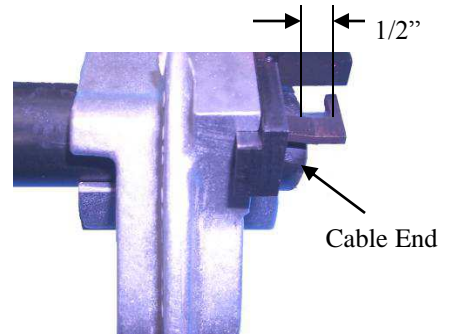

Figure 3
1. When ready to begin cutting, position the tool so approximately 1/2" of the blade is exposed at the end of the cable as in Figure 3. As the tool is rotated, the blade will engage into the jacket and CLX.